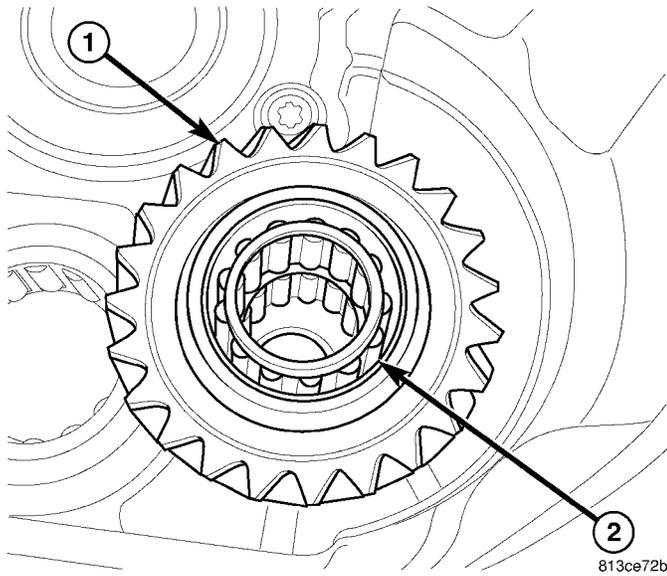

Fig. 86 IDLER GEAR BEARING
(5) Install idler gear (1) (Fig. 86) bearing (2) into gear.